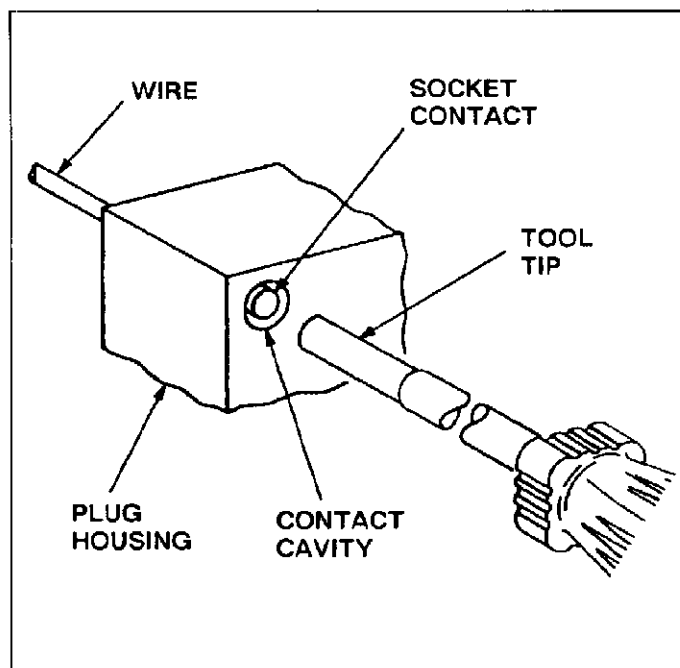

Fig. 2
1. Orient the plug housing as shown in Figure 2.